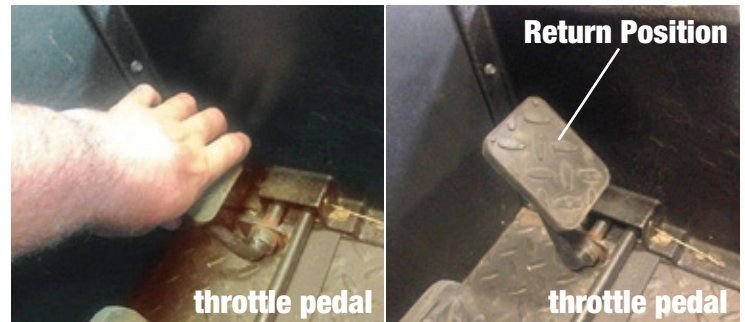

fig. 4
a. Fully depressing the vehicle throttle pedal then **VERY SLOWLY** releasing the pedal to the return position as shown in figure 4.